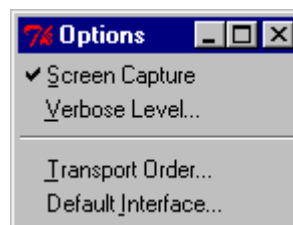

Figure 4-5. Options Drop-down Menu
In addition to changing the appearance of the interface, you can use the **O**ptions menu to toggle the screen capture feature on and off, set the global default level of verbose output, change the transport order, and select the default target interface. Figure 4-5 shows the **O**ptions drop-down menu:
1. Click **O**ptions in the menu bar. The **O**ptions drop-down menu shown in Figure 4-5 appears.